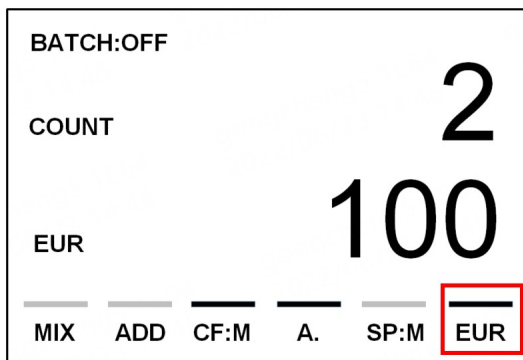

Figure 23
3) Take all the dollar bills out of the receiving bucket and then take a stack of euro bills and put them into the machine for counting. After the machine counting, the interface shown in Figure 23 below appears. The "EUR" character appears in the lower right corner of the display screen.